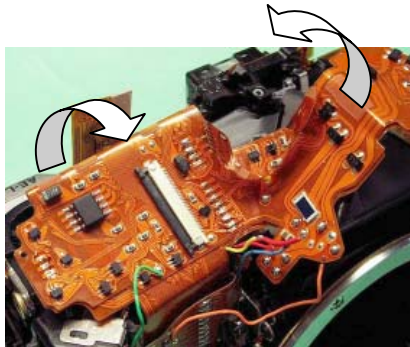

Fig.38
3) Peel off 0-T100 where is fixed on the penta-mirror from DT as shown in Fig.38. Fig.37